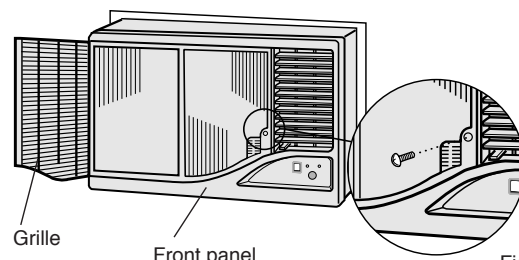

Fig.14
- (4) Open the grille and secure the front panel with the screw removed in step 1 (Fig.14). Replace the air filter and close the grille firmly.